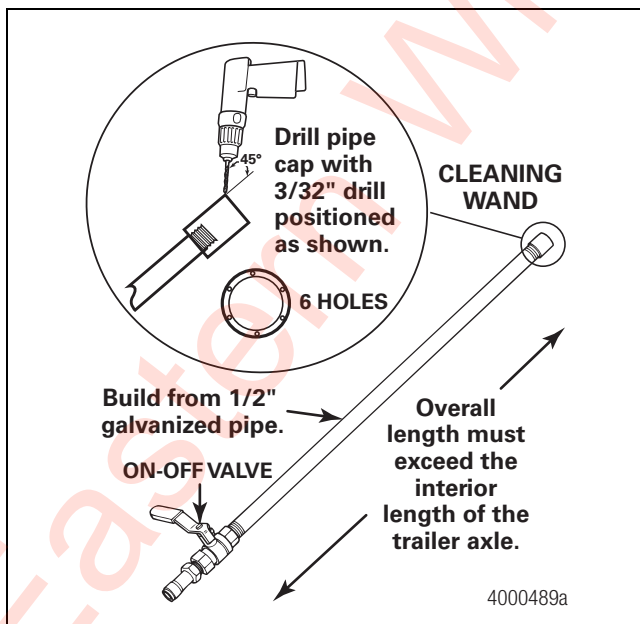
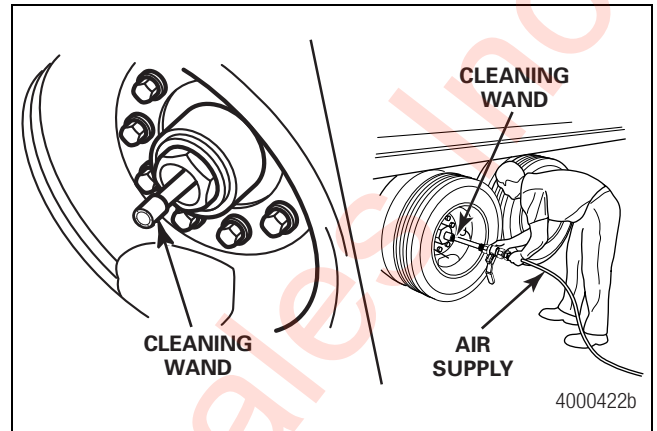

Figure 2.12
Figure 2.13
8. Connect a cleaning wand to a high-volume air supply. Refer to Section 7 for information on building a cleaning wand. Figure 2.12. Slowly push the wand through the axle until it exits the opposite end. During this operation, a steady stream of air will be blowing from the axle spindle. Figure 2.13.